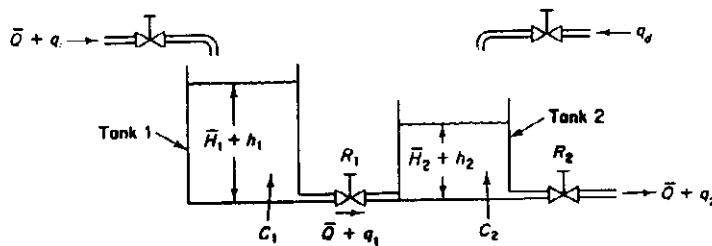

Fig. 1. Liquid-level system.
1. Consider the liquid-level system shown in Fig. 1. At steady state the inflow rate is $\bar{Q}$ and the outflow rate is also $\bar{Q}$. Assume that at $t = 0$ the inflow rate is changed from $\bar{Q}$ to $\bar{Q} + q_i$, where q_i is a small quantity. The disturbance input is q_d , which is also a small quantity. Draw a block diagram of the system and simplify it to obtain $H_2(s)$ as a function of $Q_i(s)$ and $Q_d(s)$. The capacitances of tanks 1 and 2 are C_1 and C_2 , respectively. (20%)